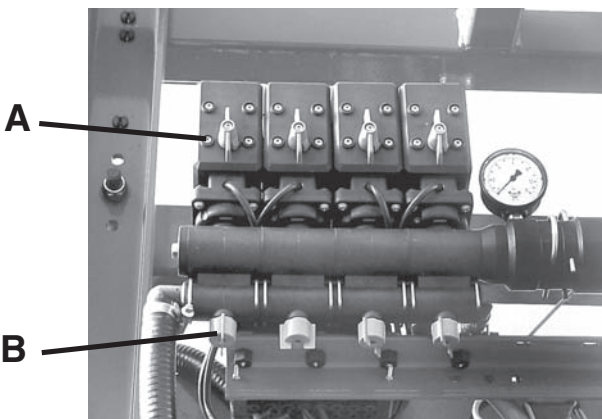

Fig 10
- 1 Close the first section of the distribution valves (A Fig 10).
- 2 Turn the first section adjusting screw (B Fig 10) until the pressure gauge shows the same pressure again.